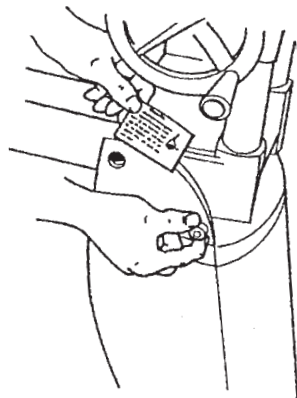
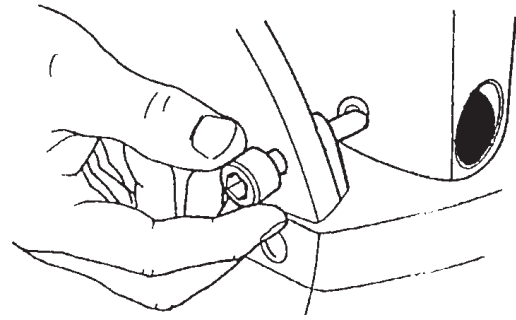

Figure C-10
Figure C-11
5. See Figure C-10. Use your fingers to screw in the base lock (2). Note the base lock is slightly off center to the countersink found in the bench base, as shown in Figure C-11. This offset allows the base lock to more firmly hold the base in place.